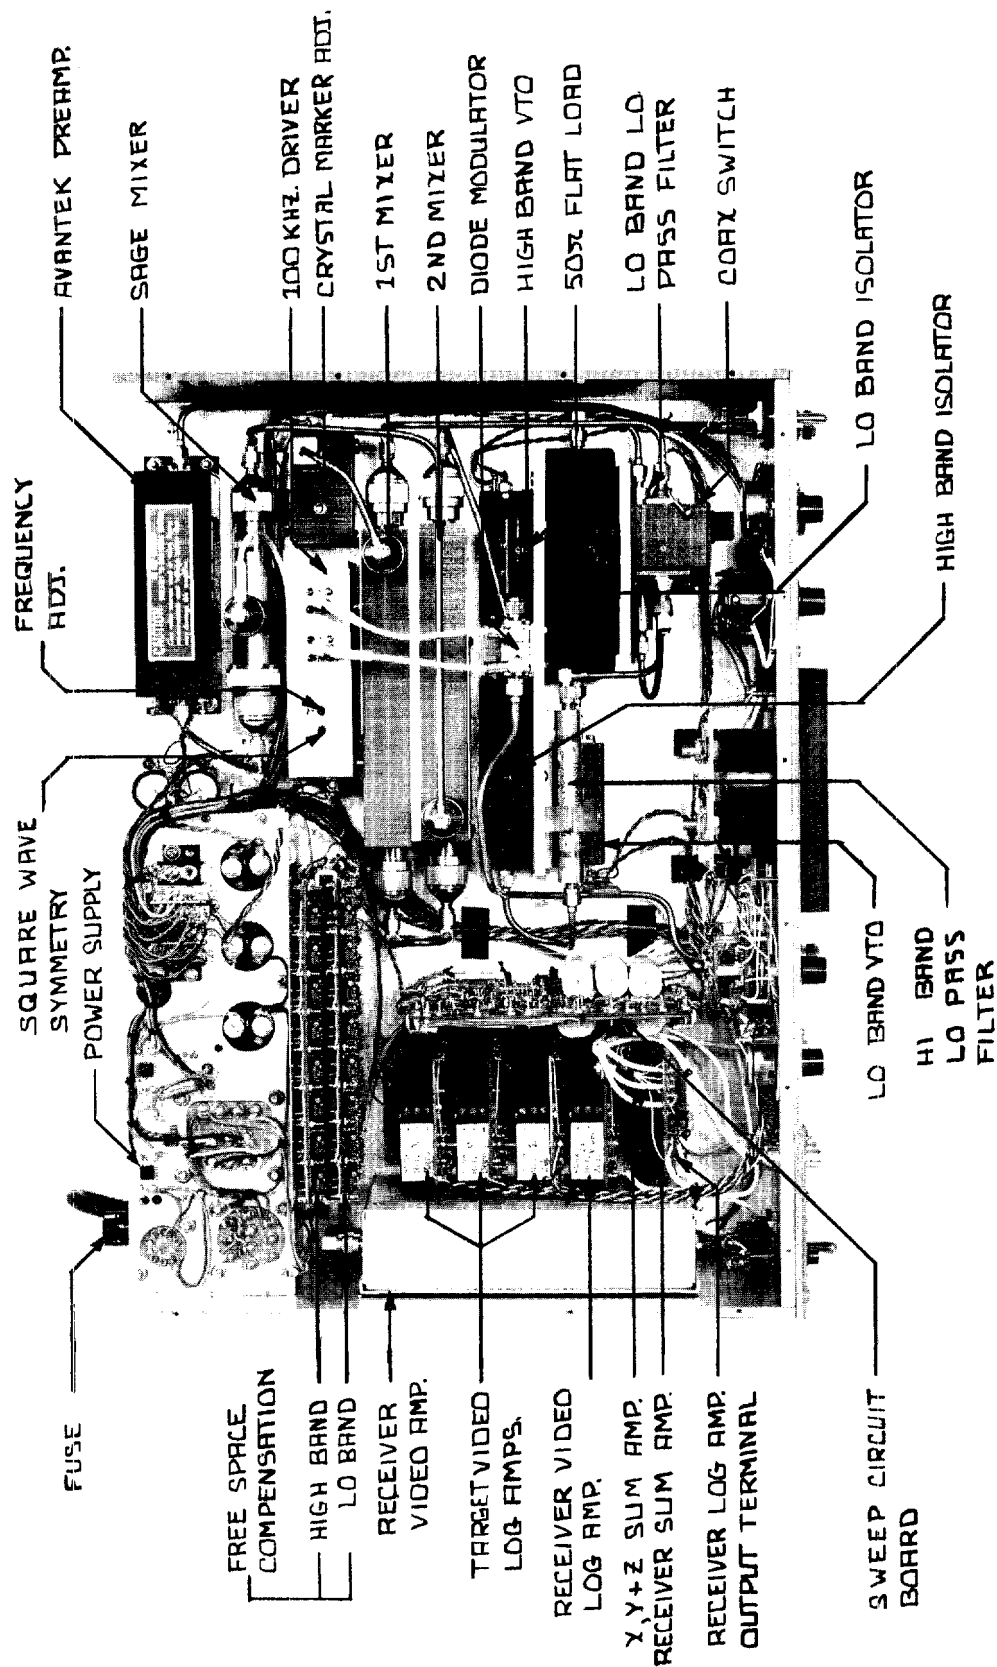

Figure 6. Transceiver Top View
Figure 6 is a top-view photograph of the transceiver with an overlay showing the location of the circuit boards and microwave components.
The inherent isolation between the receiver and transmitter antennas due to the 170 kHz coding of the signal should be enough to get a clear uncluttered video signal from the target-video output. The object of the compensating technique is to have a leveled target-video display; i.e., there are many non-linear elements with frequency, in the total system: all three antennas, the VTO's, low pass filters, microwave isolators and transmission lines. They distort the true reflections of the target antenna. Therefore, by adding or subtracting (as the video picture indicates) eight contiguous d.c. levels for each sweep, the above mentioned distortions will be reduced. There is a separate compensating circuit for each band. See Figure 6 for the physical location of circuit cards. The calibration method is carried out in the following way:
5. Adjust the Free Space Compensation circuit to obtain the most level line. The 8 miniature trim pots on the top edge of the low and high-frequency-band circuit boards are used to adjust the compensation (see Figure 6). Turn on the COMPENSATION switch. Observe the video output; there should be 8 dc steps in the video envelope. The object of the compensation circuits is to make the line as level as possible by adjusting the trim pots. Start at the left end of the circuit board; this corresponds to start of the sweep (the low frequency end), and adjust each potentiometer for the best results. Switch bands and adjust the compensation potentiometers on the other circuit board in the same way.